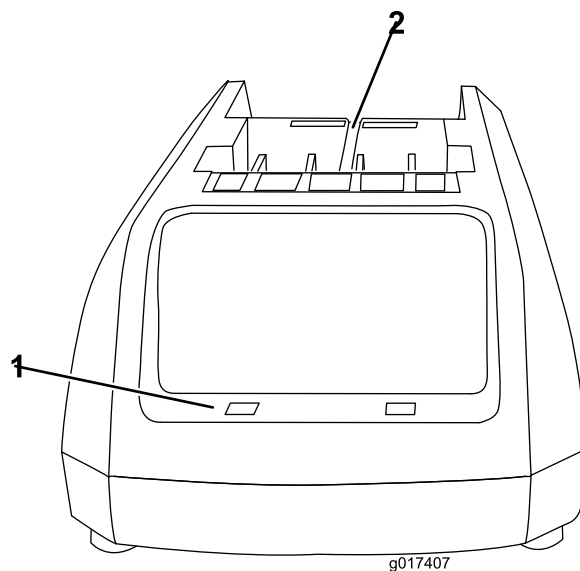
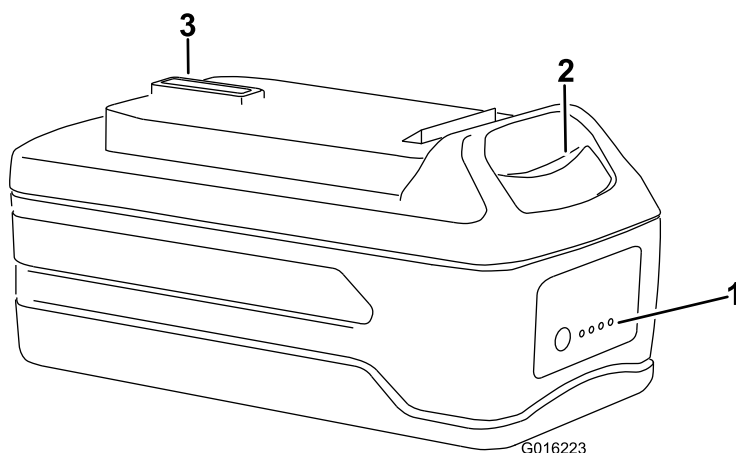

Figure 9
Figure 10
1. Turn the battery upside down and line up the battery terminal with the slot in the charger (Figure 9 and Figure 10).